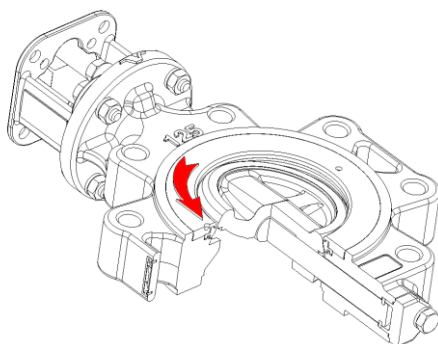
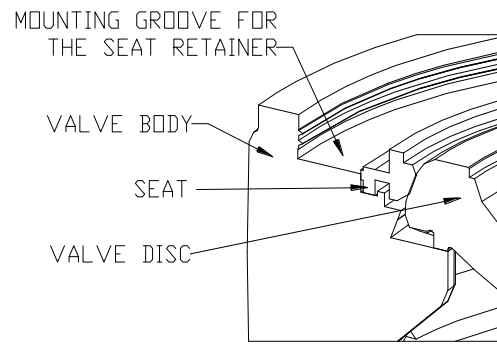

Fig. 24
Fig. 25
- Open the disc up to 90° and separate the seat retainer (Fig.24), seat (Fig.25), from the valve body.